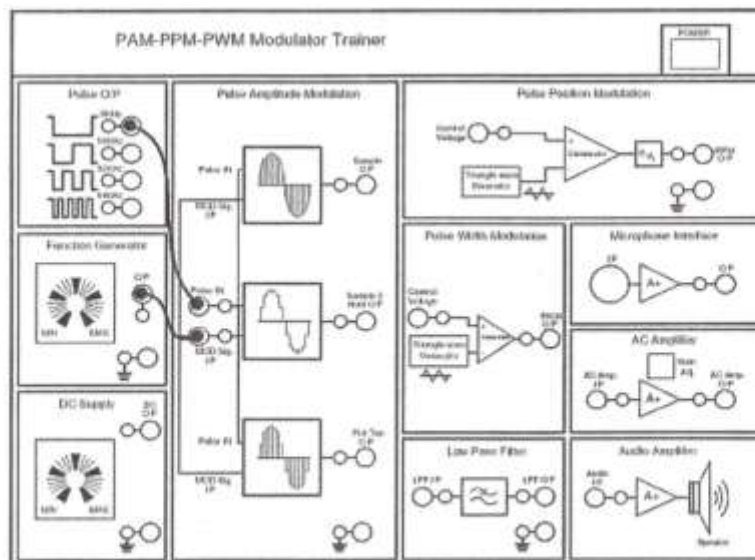

Fig. 16
1. Connect the circuit as shown in Fig 16.